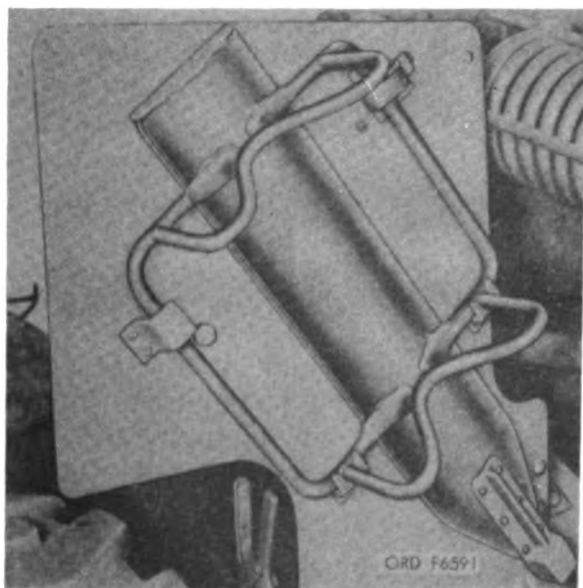

Figure 62. Loading tray stowed on right shield.
- (11) Remove the loading tray from the right shield (fig. 62) of the M123A1 howitzer.